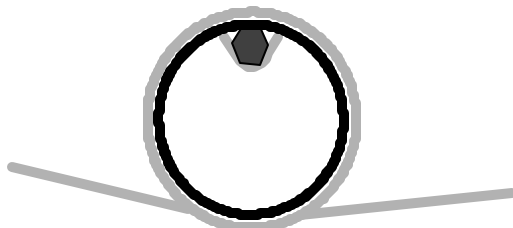

FIG. 1
**Sight into the end of the adjuster pipe.** It should look like Fig. 1. Note that the cable loops down into the pipe, and the long 1/4" bolt goes through the kink and holds it in place.